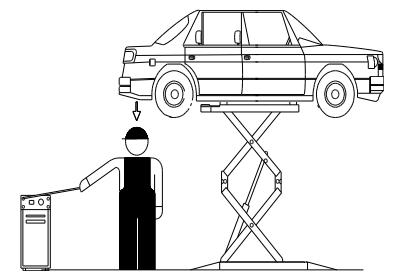

Fig.7
**RISICO'S VOOR BEDIENER (Fig.7)**